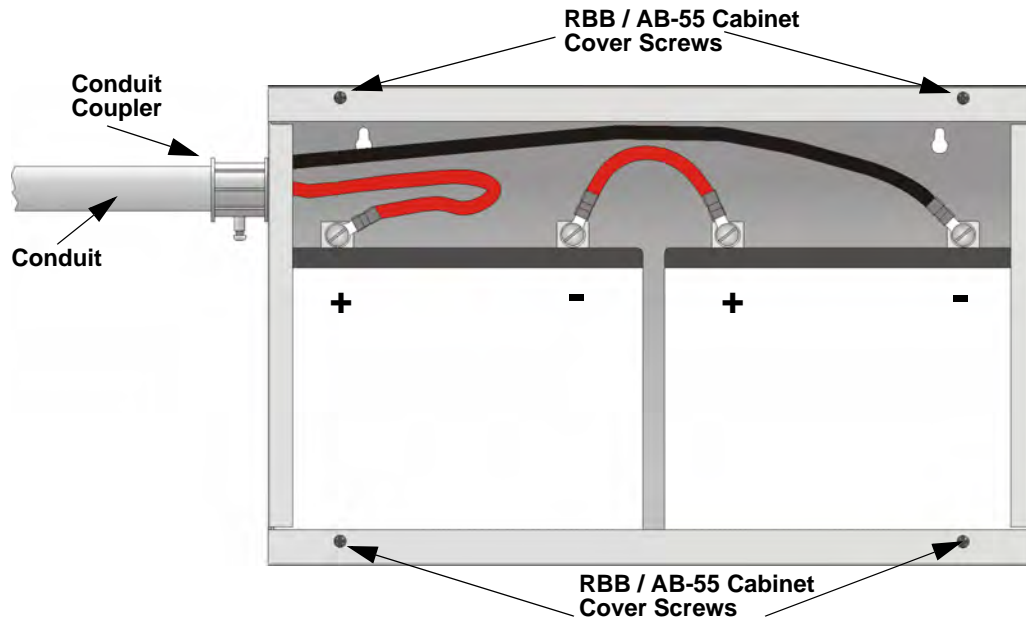

Figure 4.6 Battery Connections in the RBB or AB-55 Cabinet
3. Run extended battery cable from control panel cabinet through conduit to RBB or AB-55 cabinet. See Figure 4.6.
NOTE: Figure 4.6 is an example of how the wire connections can be routed. However, any other cabinet knock-outs (on either the main control panel or the RBB/AB-55 cabinet), that are not previously being used may be utilized to connect conduit between the two cabinets.
4. Connect battery leads to the backup battery terminals. See Figure 4.6.
5. Insert the RBB or AB-55 cover screws into the cover mounting holes. See Figure 4.6.